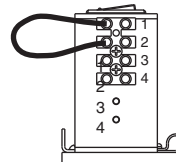

Figure 2
Step 4: Using a short jumper cable, jump terminals 1 and 2, see Fig. 2 below, to activate unit. When door reaches 20°, switch Breaker Switch to "OFF" position cutting power to the unit. Allow door to fully close (door may be manually pulled closed).
Step 7: Flip Breaker Switch to “RESET” to turn power on. Jump terminals 1 and 2 (as shown in Fig. 2) to activate door. Note open position of the door. Allow door to close.